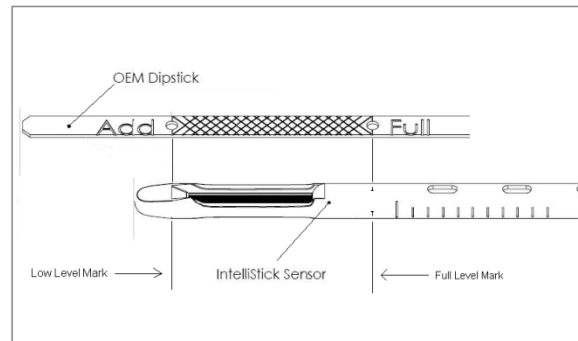

Figure 1
1. Carefully line up the bottom of the sensor opening on the IntelliStick probe with the LOW mark of the original OEM dipstick (Figure 1)